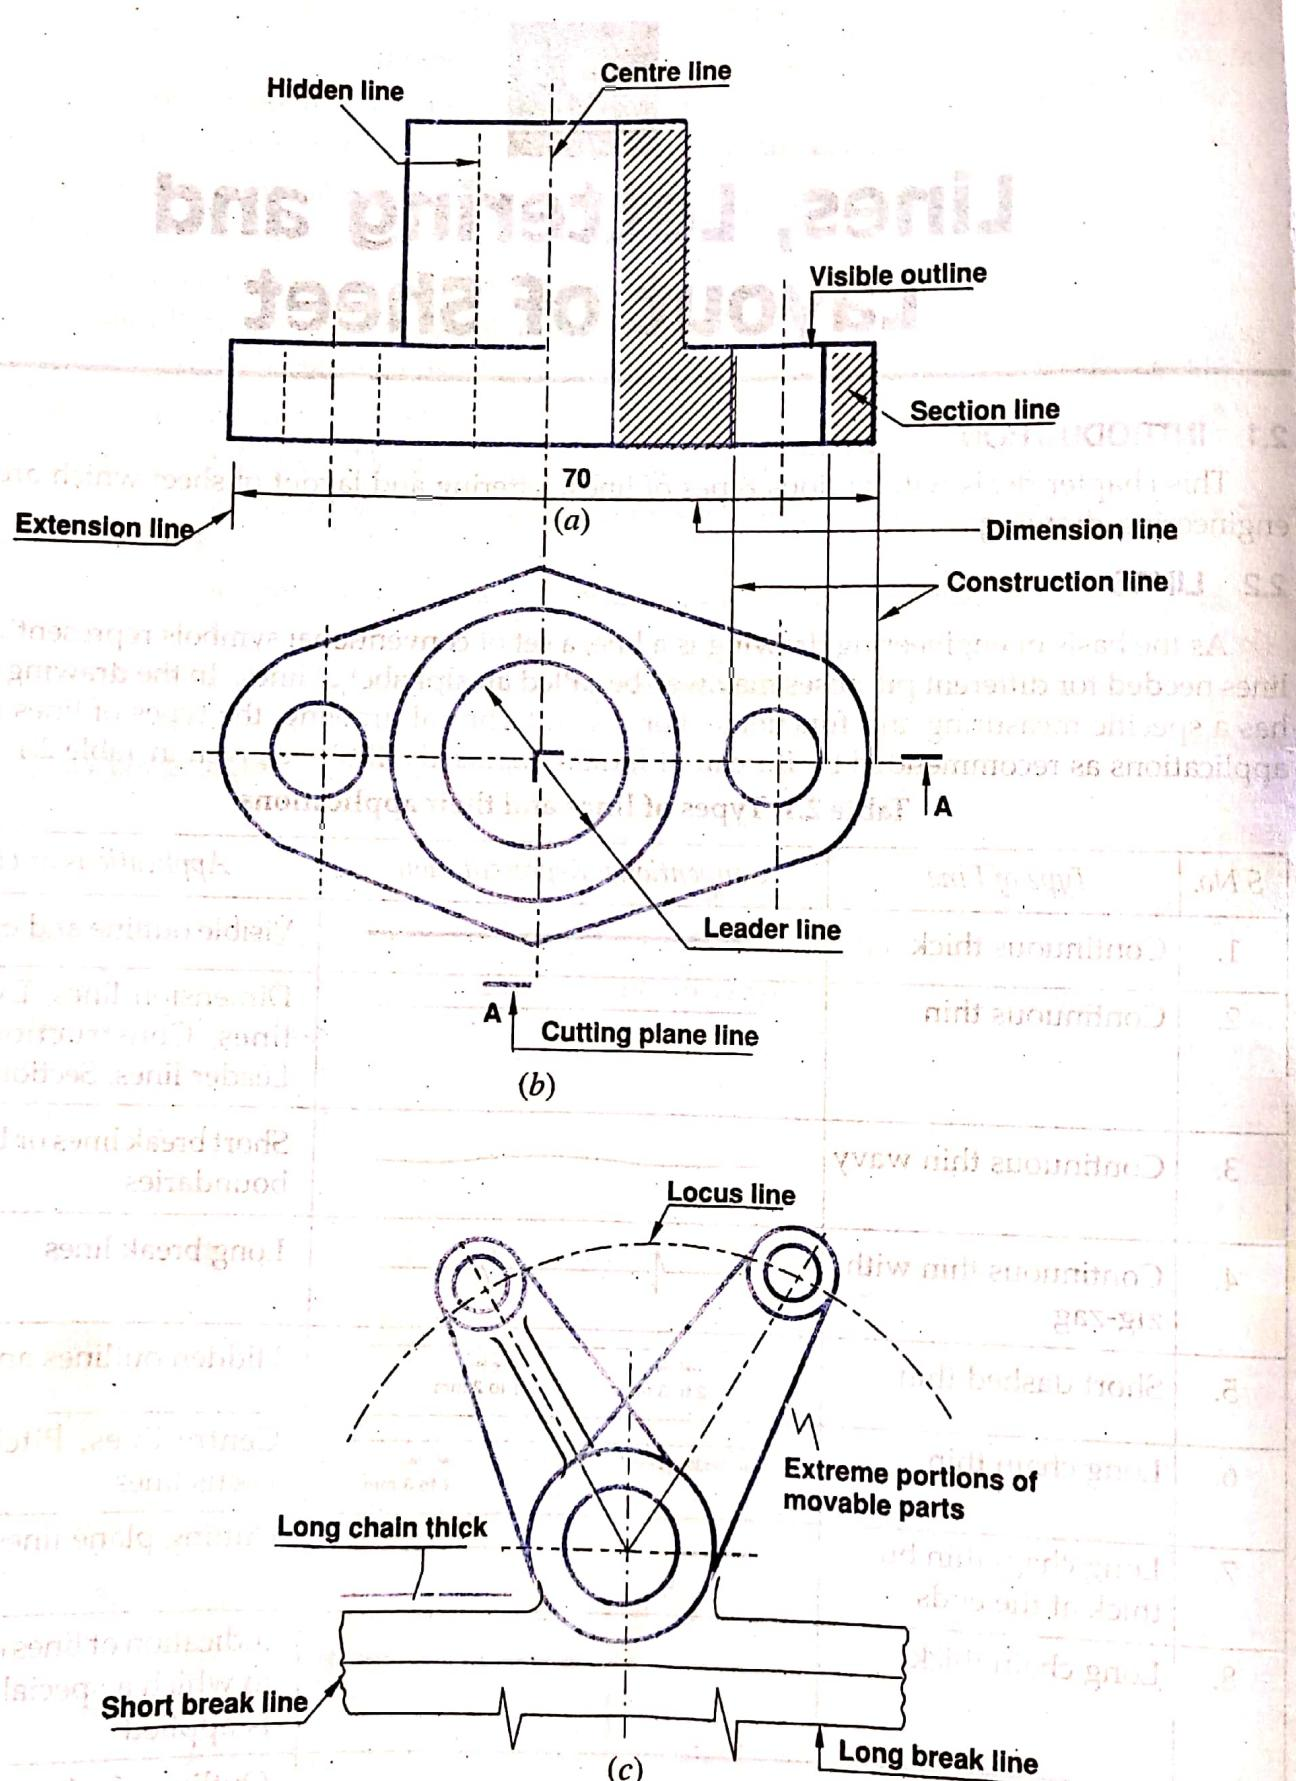

Fig. 2.1 Applications of different types of lines
- Typical applications of these different types of lines are shown in Fig. 2.1.